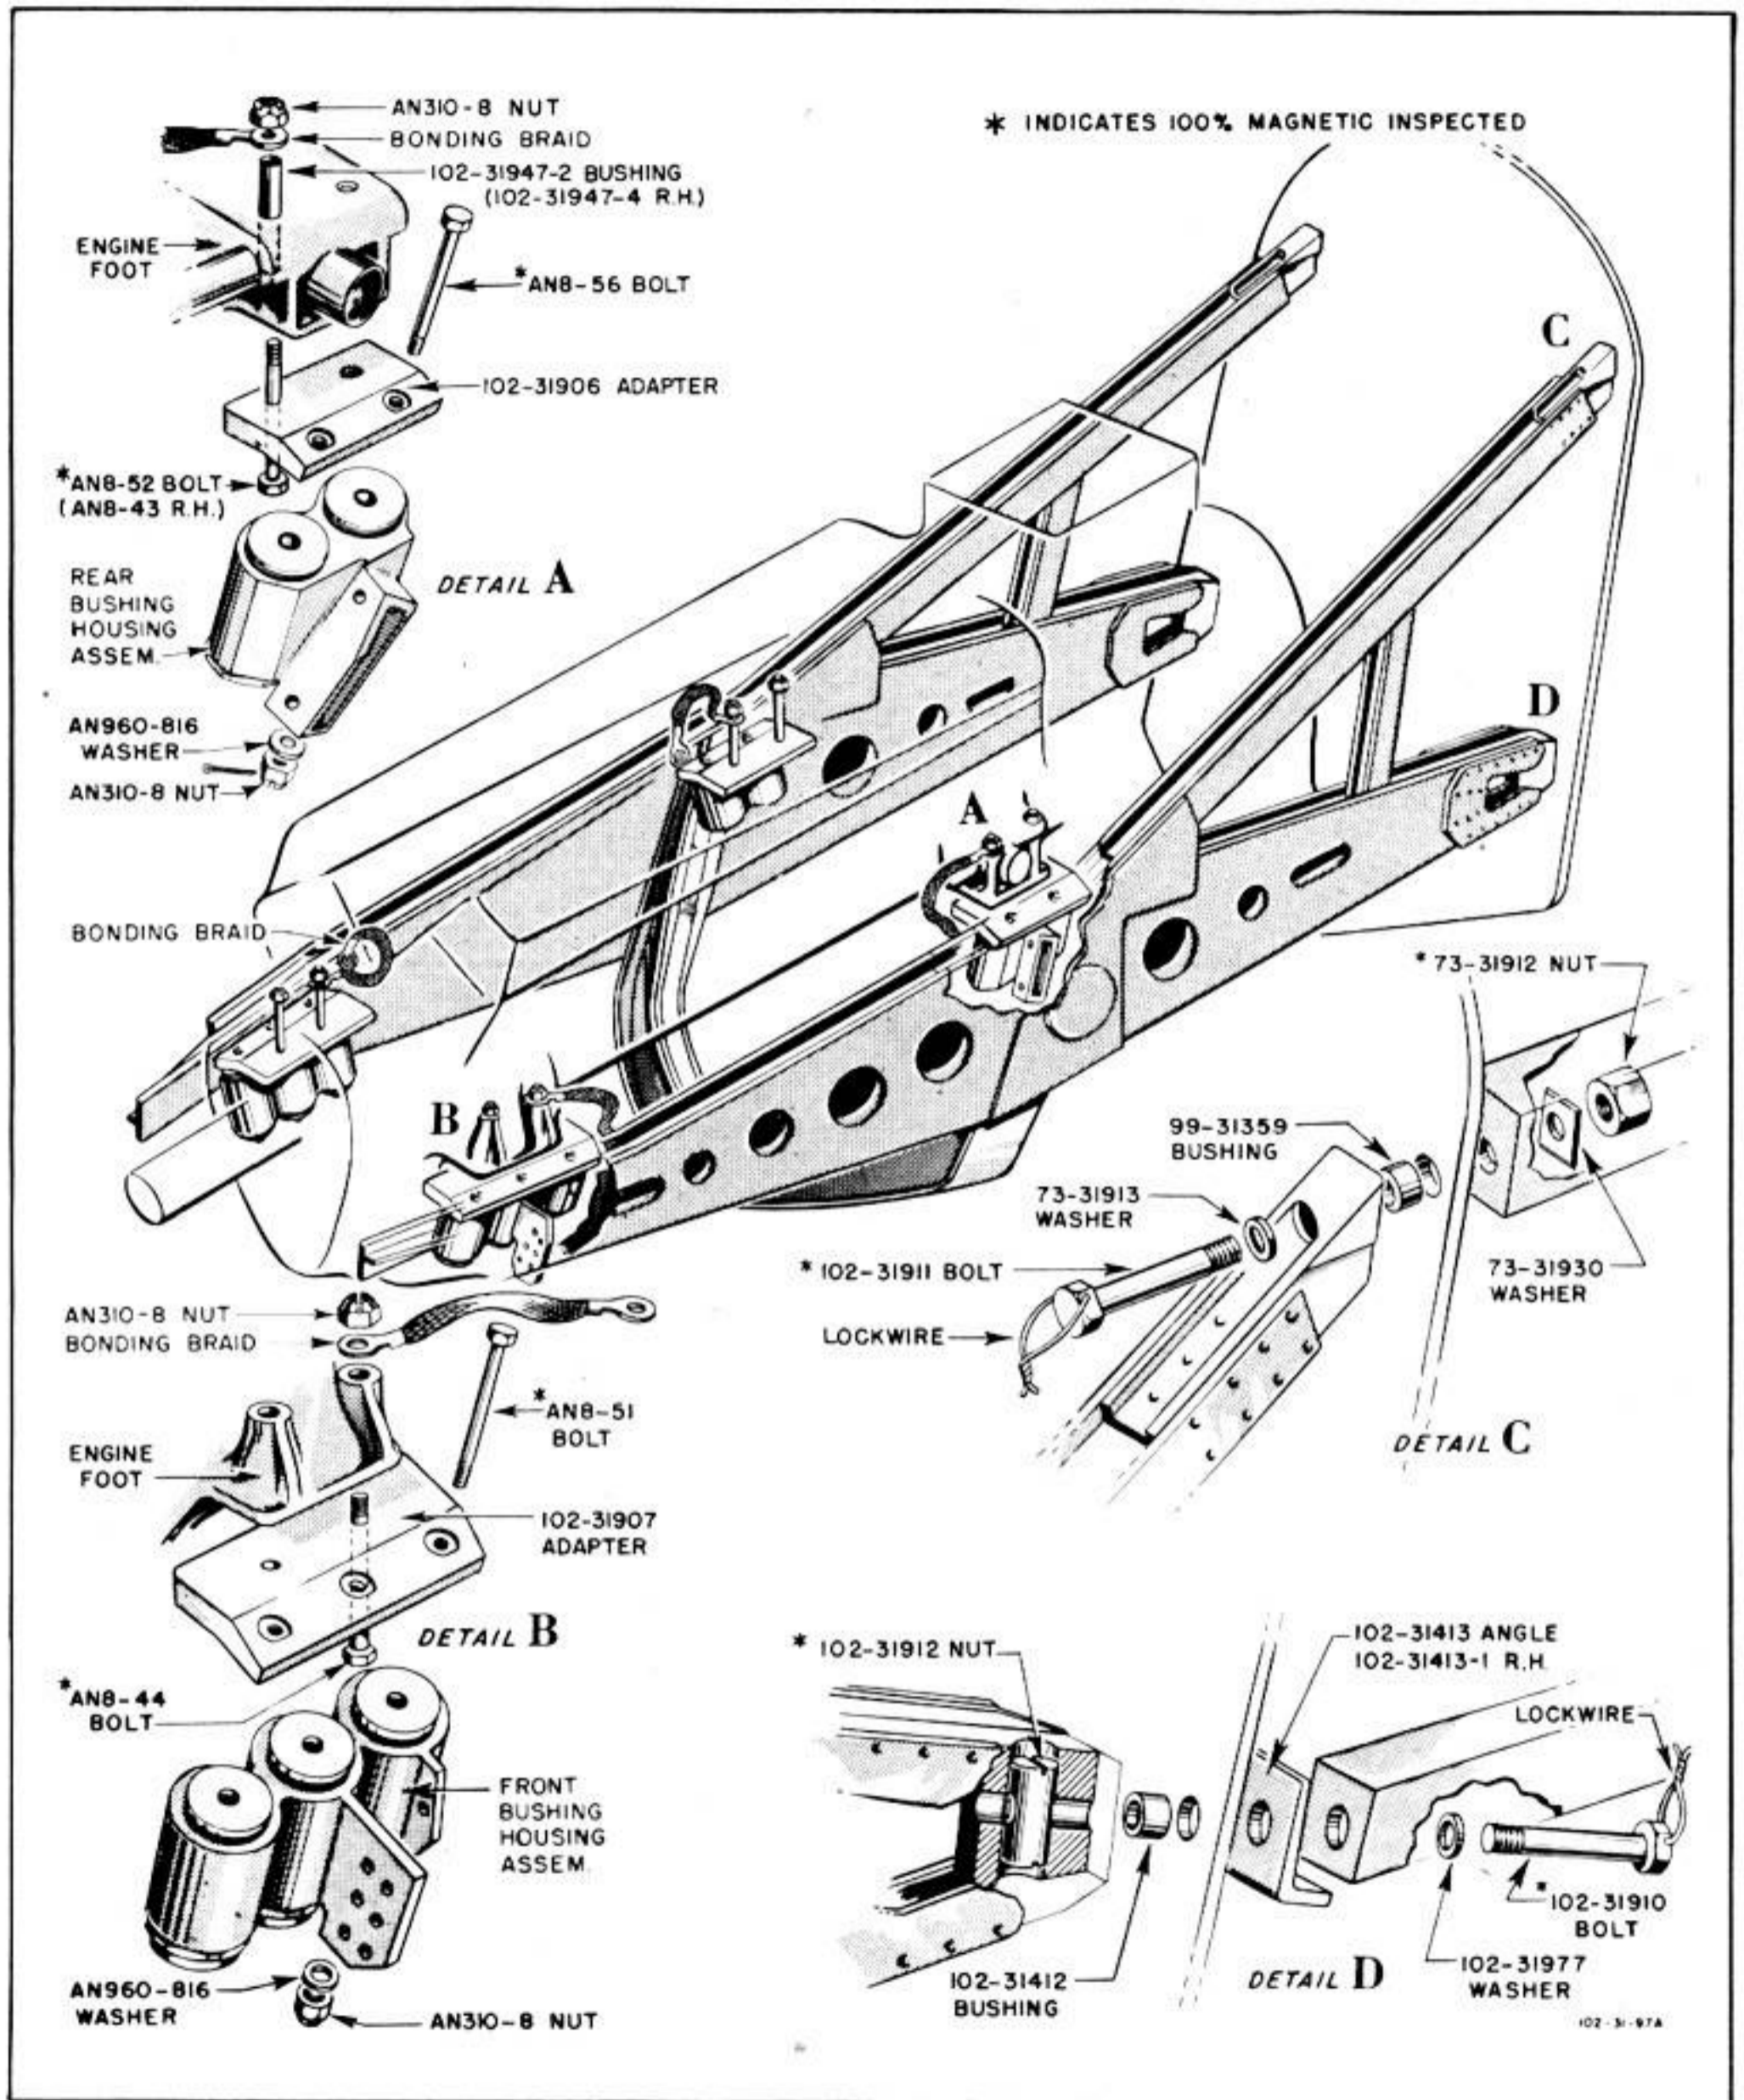

Figure 194—Engine and Mount Installation
(2) INSTALLING ENGINE TO MOUNT.—Before installing engine to the mount, make a visual inspection of the mount, checking for loose rivets and nuts, and cracked or bent sheet metal parts. See that all units and lines attached are clean and in good condition. Make sure that paint has been removed from under the bonding strips attached to the mount. Lower the engine into the mount carefully and slowly, lining up the rear adapters on the engine with the rear shock support housings on the mount. (See figure 194, details A and B.) Jockey engine so that the Lord mount center bolts will slide into place. Install front mount bolts; then tighten all nuts to a tension of 500-650 inch-pounds. Connect the four bonding strips on the mount to the engine foot adapter bolts; then torque the nuts to 500-650 inch-pounds and add cotter pins. Proceed as follows:
(b) Bolt engine mount to upper longeron and lower frame fittings as illustrated in figure 194, details C and D.